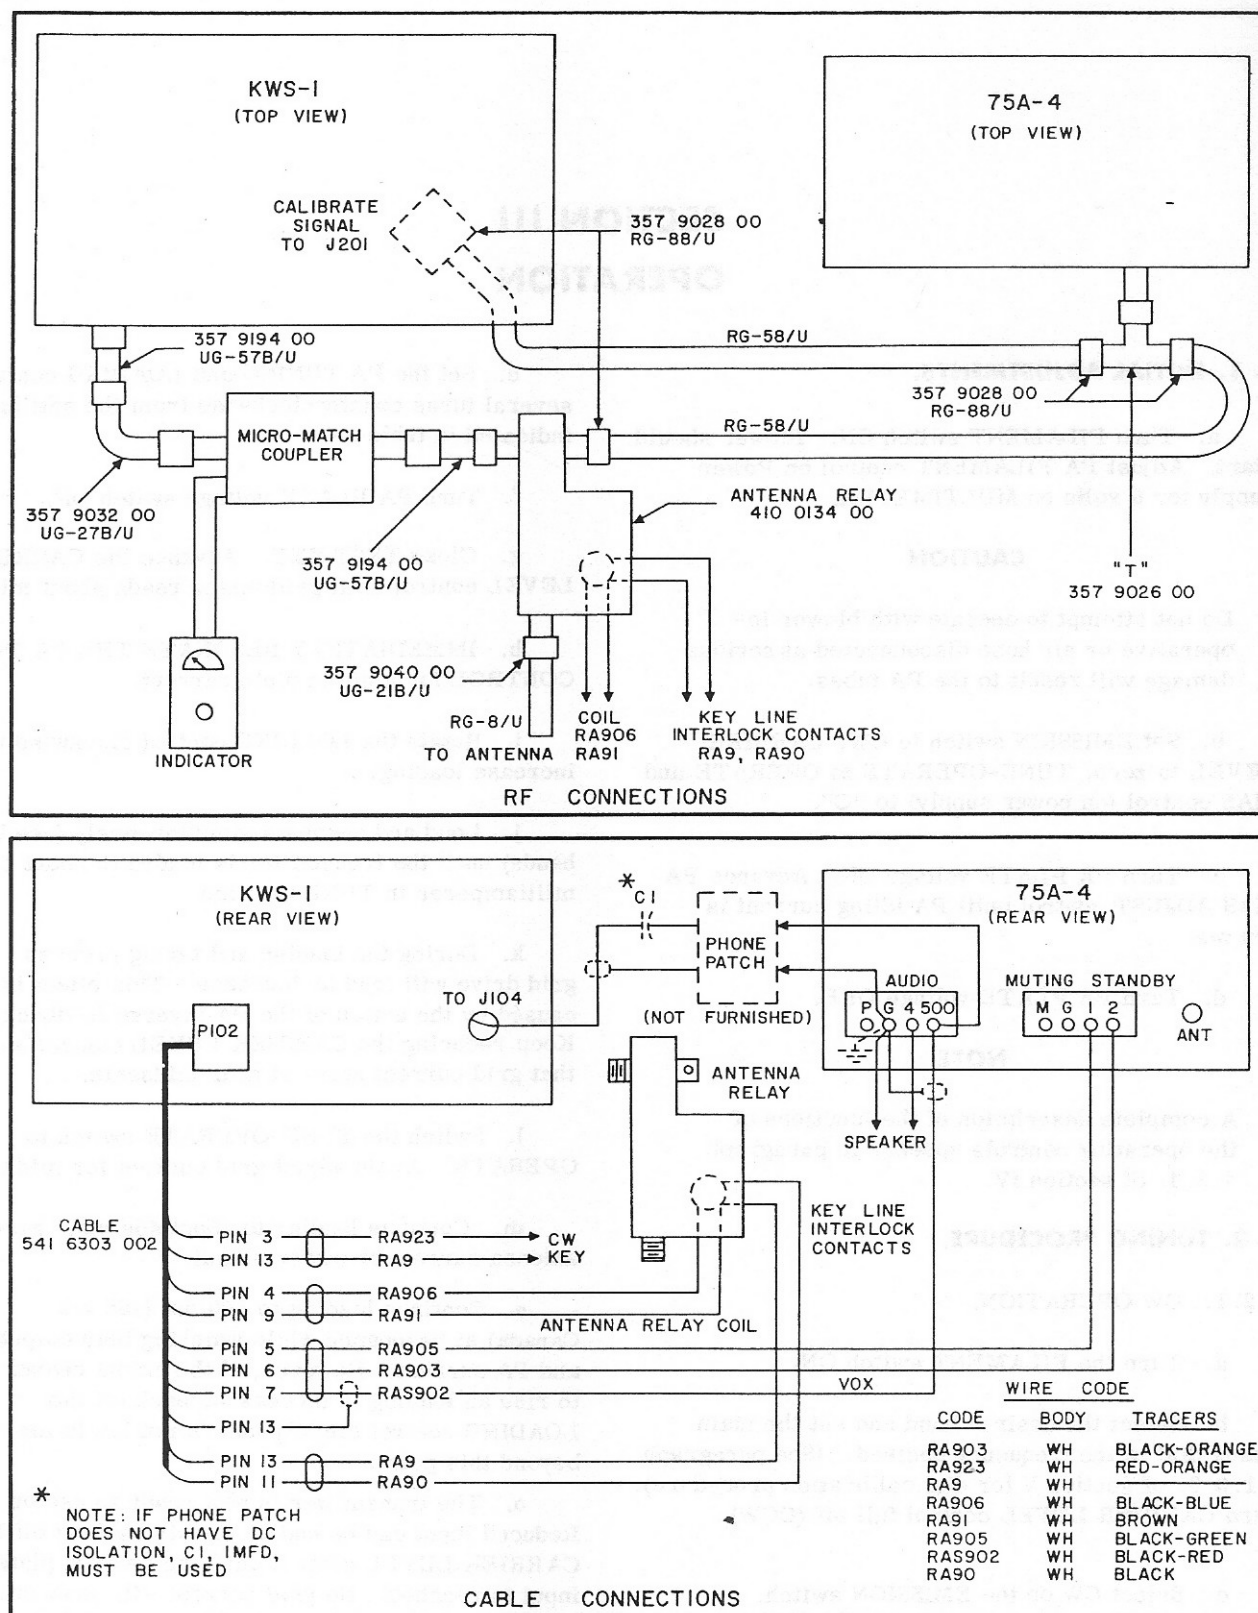

Figure 2-3. KWS-1 Connections to Associated Apparatus
- e. Connect the pendent cable to the receiver circuits, key line, antenna relay, etc. (See figure 2-3.)
- g. Plug antenna coax line into J401 on rear of PA unit. It is recommended that either an r-f ammeter or a power indicating device be used between the KWS-1 and the antenna. It is also recommended that a coaxial antenna change-over relay be used. This relay must have an extra set of normally open contacts for use in grounding the key line interlock. A source of 115 V dc, switched by the break-in relay is provided by the Power Supply for operating the 115 V dc antenna relay coil. (See figure 2-3.)
- h. Calibrate signal for the receiver can be secured by running a coax line from the receiver antenna post to the 6CL6 PLATE test point (J201). Run coax through large hole in rear of transmitter. (See figure 2-3.)